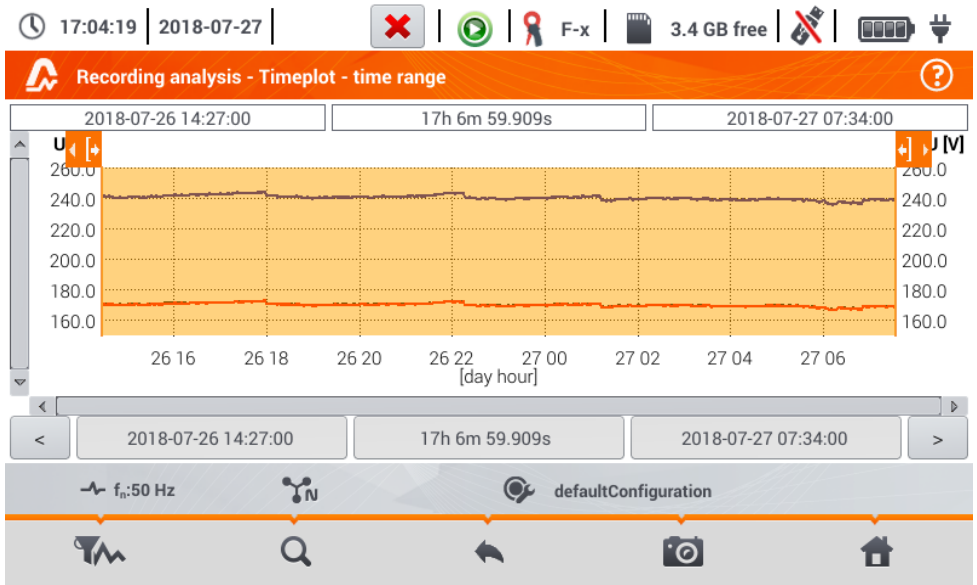

Fig. 5.19. Recording timeplot
If in section 5.8 step ③ the  icon has been selected, the screen shown in Fig. 5.19 will appear.